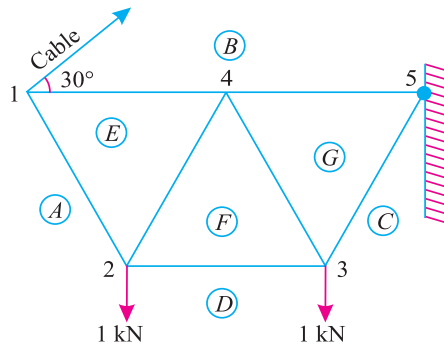

Fig. 13.58.
**Example 13.19.** The truss shown in the Fig. 13.58 is made up of three equilateral triangles loaded at each of the lower panel pains.